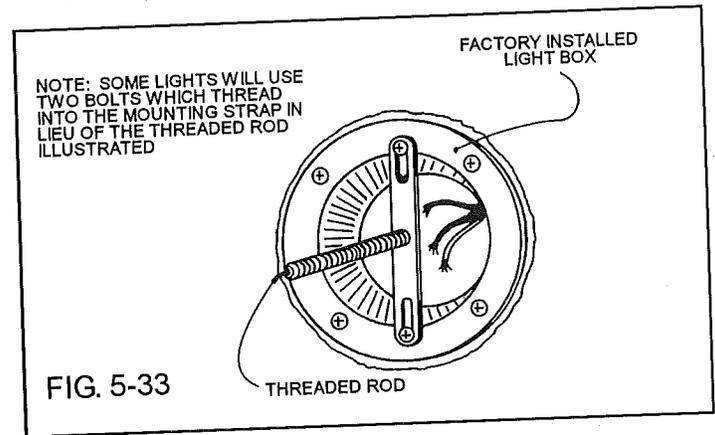

FIG. 5-33
1. Install threaded tube in the strap secured to the fixture outlet box as shown in Fig. 5-33.